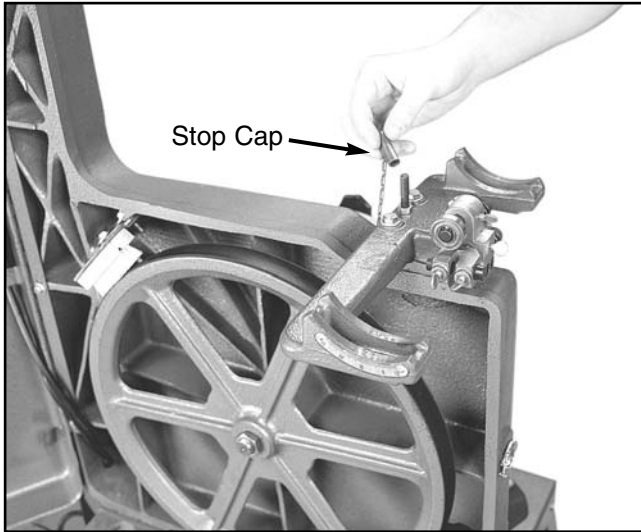

Figure 21.
4. A stop cap covers the positive stop. A pre-determined thickness in the end of this cap will automatically allow the table to tilt toward the column of the saw 10° when this cap is removed as shown **Figure 21**.